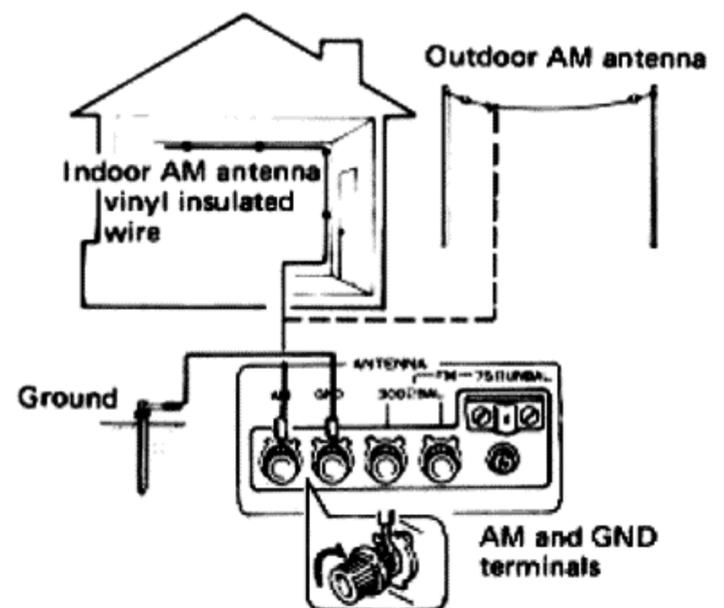

Fig. 6
- In cases when the bar antenna is insufficient for adequate reception, an indoor AM antenna can be made from a length (5 to 6 meters) of vinyl insulated wire. As shown in Fig. 6, connect one end of the wire to the AM antenna terminal and suspend the free end from a wall or ceiling at as high a location as possible.
- If reception is still difficult with an indoor antenna, use vinyl insulated wire to erect an outdoor AM antenna between two supports as shown in Fig. 6.
From aspects of both safety and reduced noise, if possible employ a ground as shown in Fig.6. Connect the ground lead to the GND terminal of the TX-8500II. Consult a qualified electrician regarding proper grounding techniques.